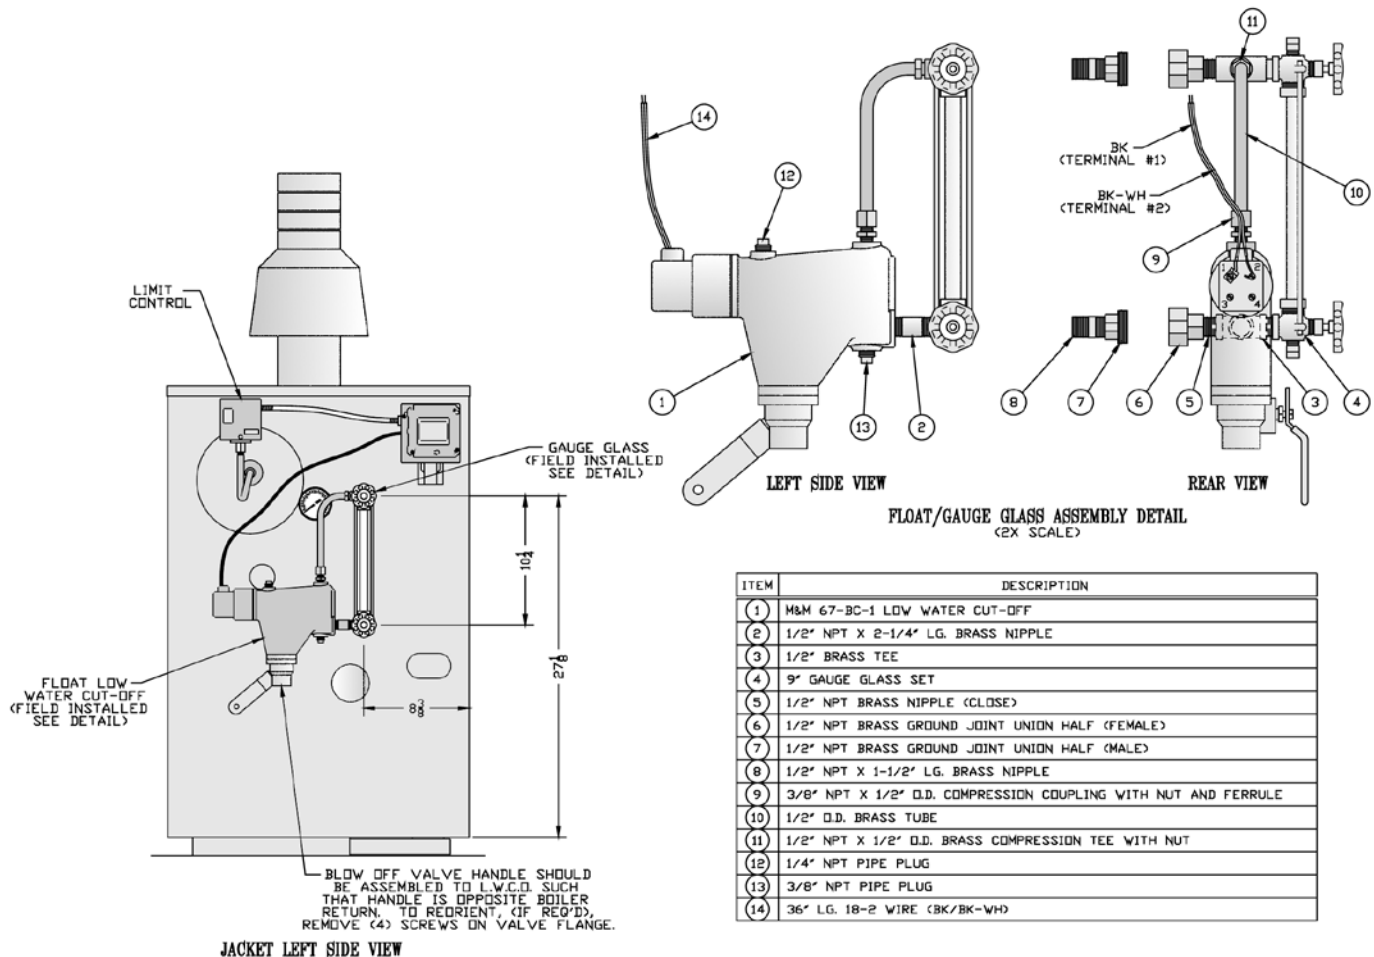

Figure 5: Assembly Diagram for McDonnell & Miller 67 Low Water Cutoff
- B. Boiler equipped with McDonnell & Miller 67 Low Water Cutoff Only.** Assemble gauge glass and low water cutoff as shown in Figure 5. Follow instructions packed with low water cutoff.